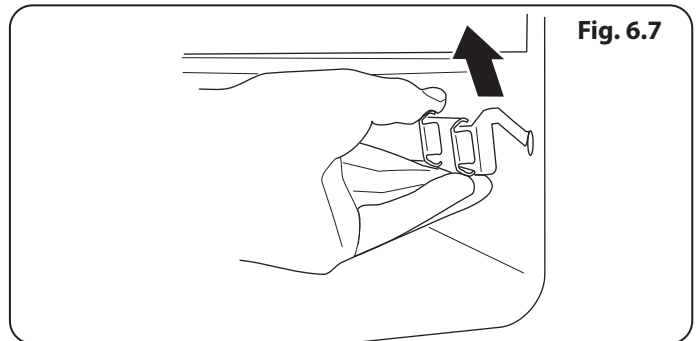

Fig. 6.7
3. If you need to remove the telescopic runners to allow cleaning of the broiler chamber, first remove the broiler tray then you can unhook them from the broiler chamber sides (**Fig. 6.7**).